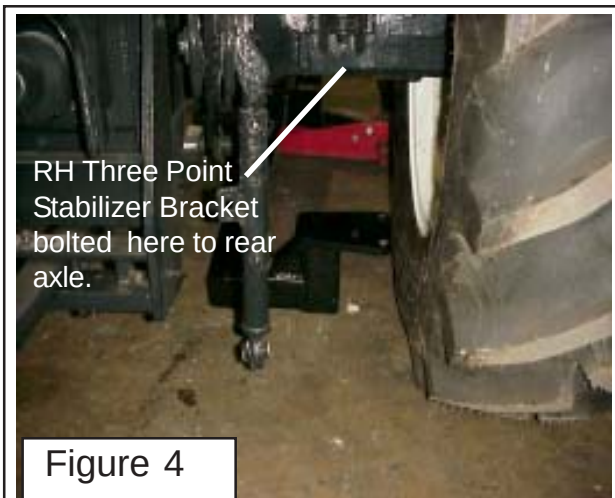
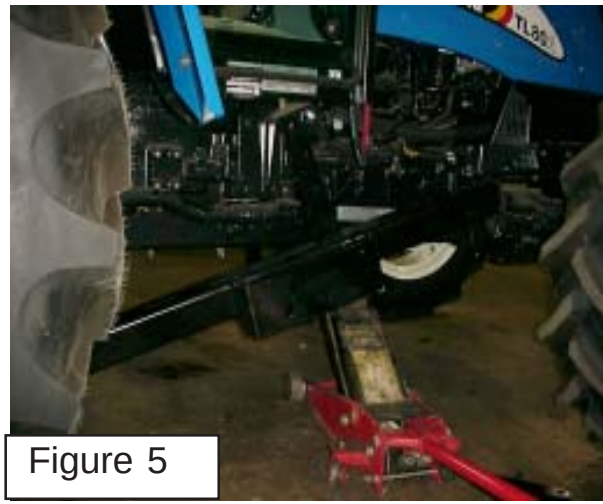

Figure 4
Figure 5
6. Remove Engine Compartment Access Guards. The engine has guards bolted onto the side to prevent access to the front of the engine. These guards need to be removed. The guards and mounting hardware will be reused (See Figure 5).
9. Re-install Engine Compartment Access Guards. The engine compartment guards can be reinstalled after the pulley adapter has been tightened down, use the same bolts to reinstall guard as were taken out to remove them. These guards must be replaced the same as they were removed. DO NOT operate the tractor without these guards installed. The guards and mounting hardware will be reused (See Figure 5).
3. Remove 3-Point Stabilizer Bracket. The RH side 3 point stabilizer bracket will be unbolted from the tractors RH rear axle housing (see Figure 4). Leave the stabilizer off for now. When the stabilizer bracket is reinstalled it will be with longer bolts. If on a ROPS tractor the bolts for the RH ROPS mount bolts will have to be removed so the lower rops strap can be removed. The RH Frame will have a new lower strap built onto it. The same bolts and nut that secure the rops to the factory lower strap will be reused to secure the frame lower strap to the rops (See Figure 1).
4. Install Frame Rail to Tractor. The frame rail (Item 1 Figure 1) will be slid under the tractor on the RH side (See Figure 4). Make certain the plastic plugs have been removed from tractor frame, two at the front bolster and two mid frame. Do NOT tighten the frame mounting bolts until all the bolts have been installed as frame will need to be moved slightly for alignment as the bolts are installed. The frame can be installed by balancing the frame on a floor jack, if using this method it is recommended two people perform this to prevent the frame from falling. Raise the frame up to the tractor frame (See Figure 5),